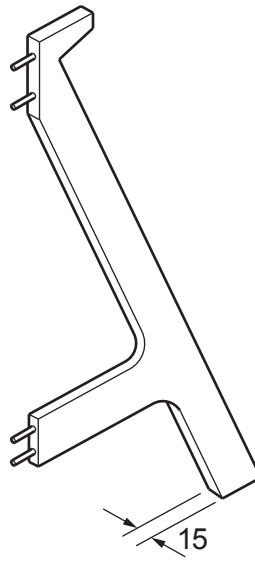

Fig. 11.3
- (c) Legs **B** and **C** will be joined through frame **A** by means of dowels. Fig. 11.3 shows details of leg **C**.